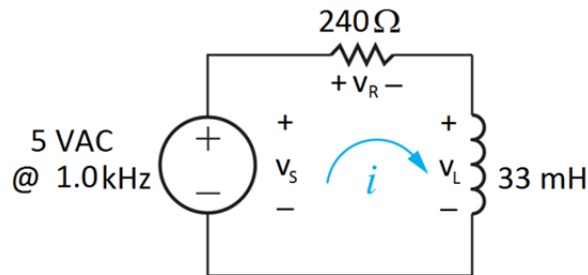

Figure 5: RL Circuit
- Obtain a 33-mH inductor from your instructor and build the circuit shown in Figure 5.